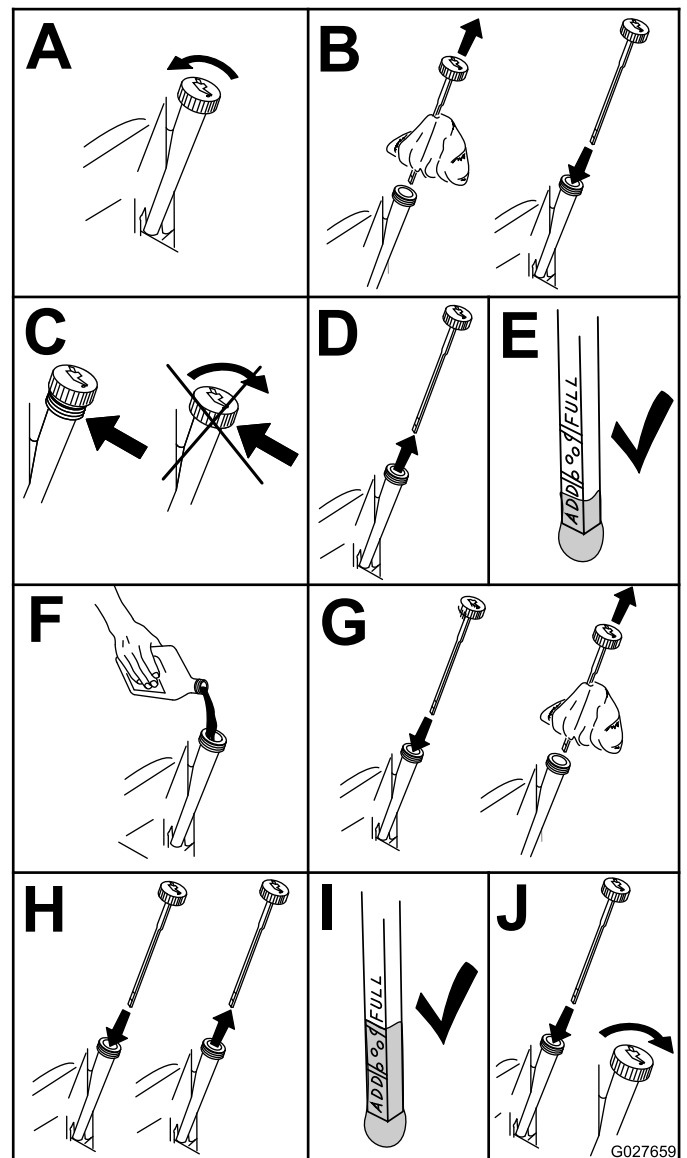

Figure 39
4. Check the engine-oil level (Figure 39).